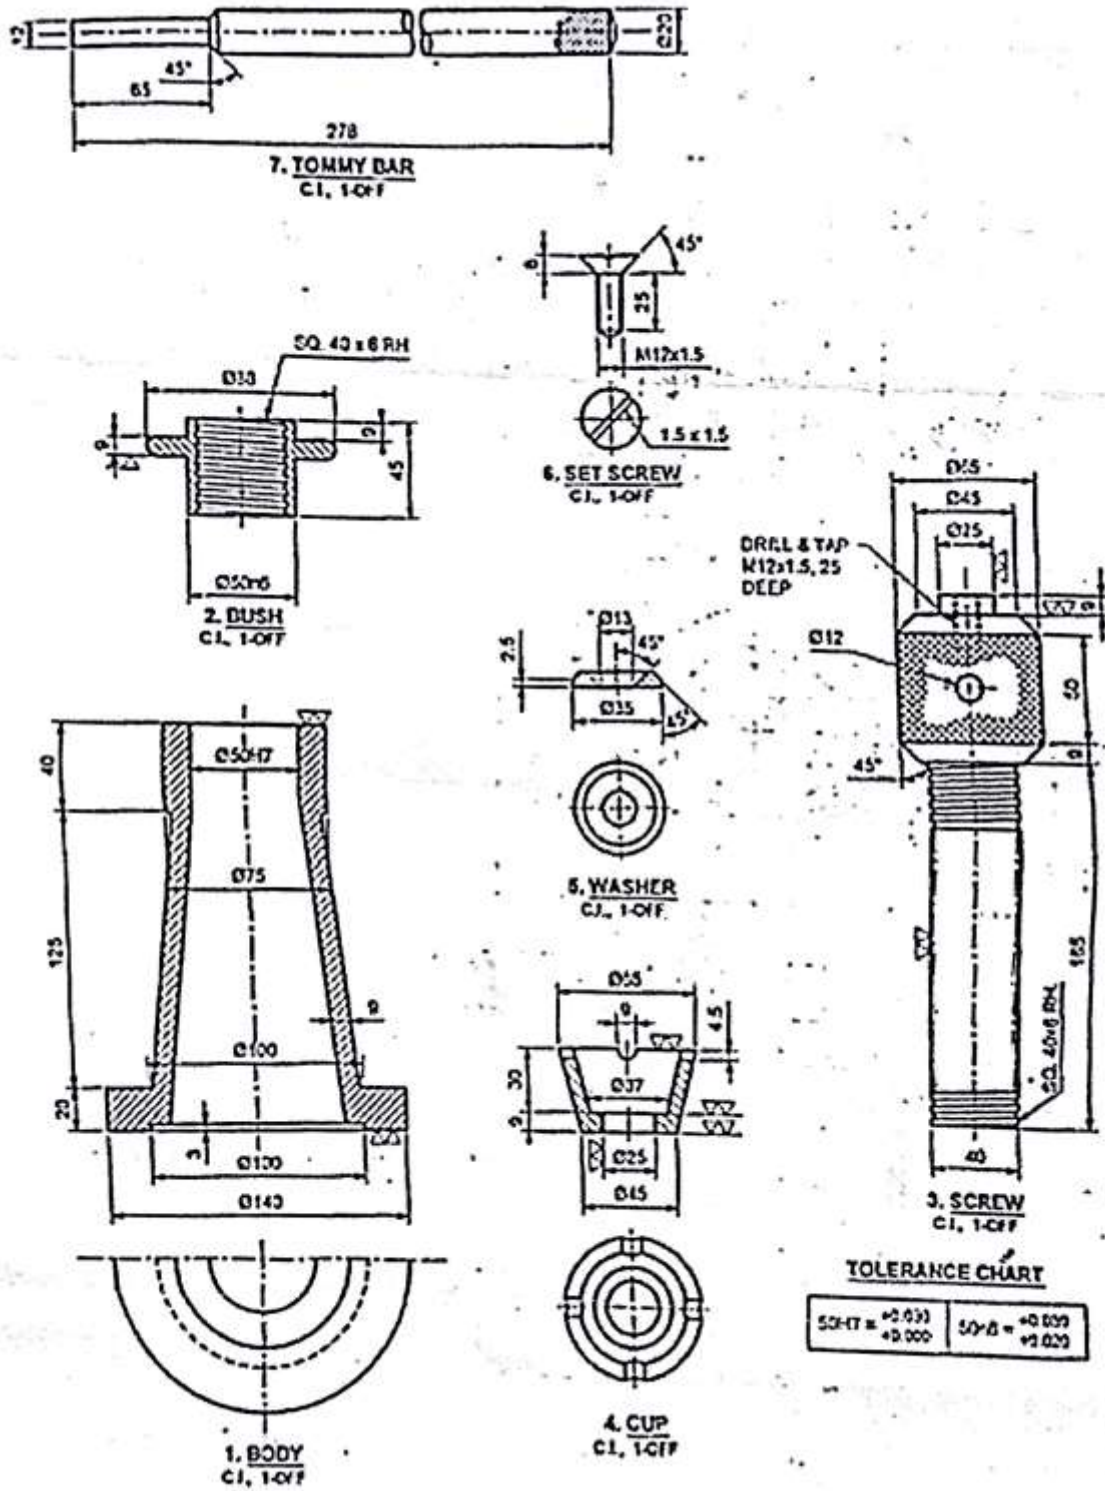

Fig.4
Q.5 Figure 4 shows details of the screw jack. Assemble all the parts, tabulate the bill of material and draw: 25